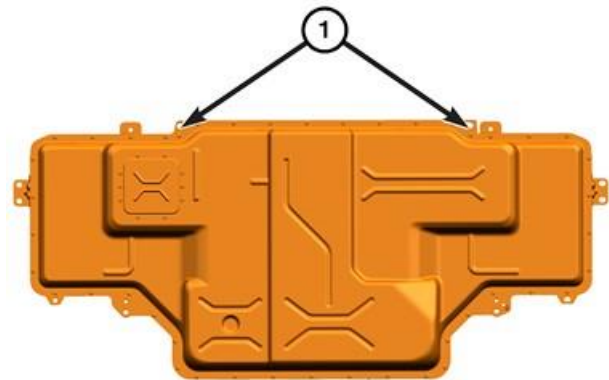

Figure 27 – Support Mounting Holes
- 41. Install two Eyebolt, 10mm 2035203080 with the nuts to the front support mounting holes (1) (Figure 27).